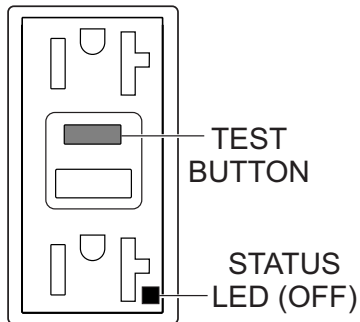

Figure 53. GFCI Receptacle (OFF)
4. Press the **TEST button** (Figure 53) on the GFCI receptacle and verify that the status LED turns **OFF**.